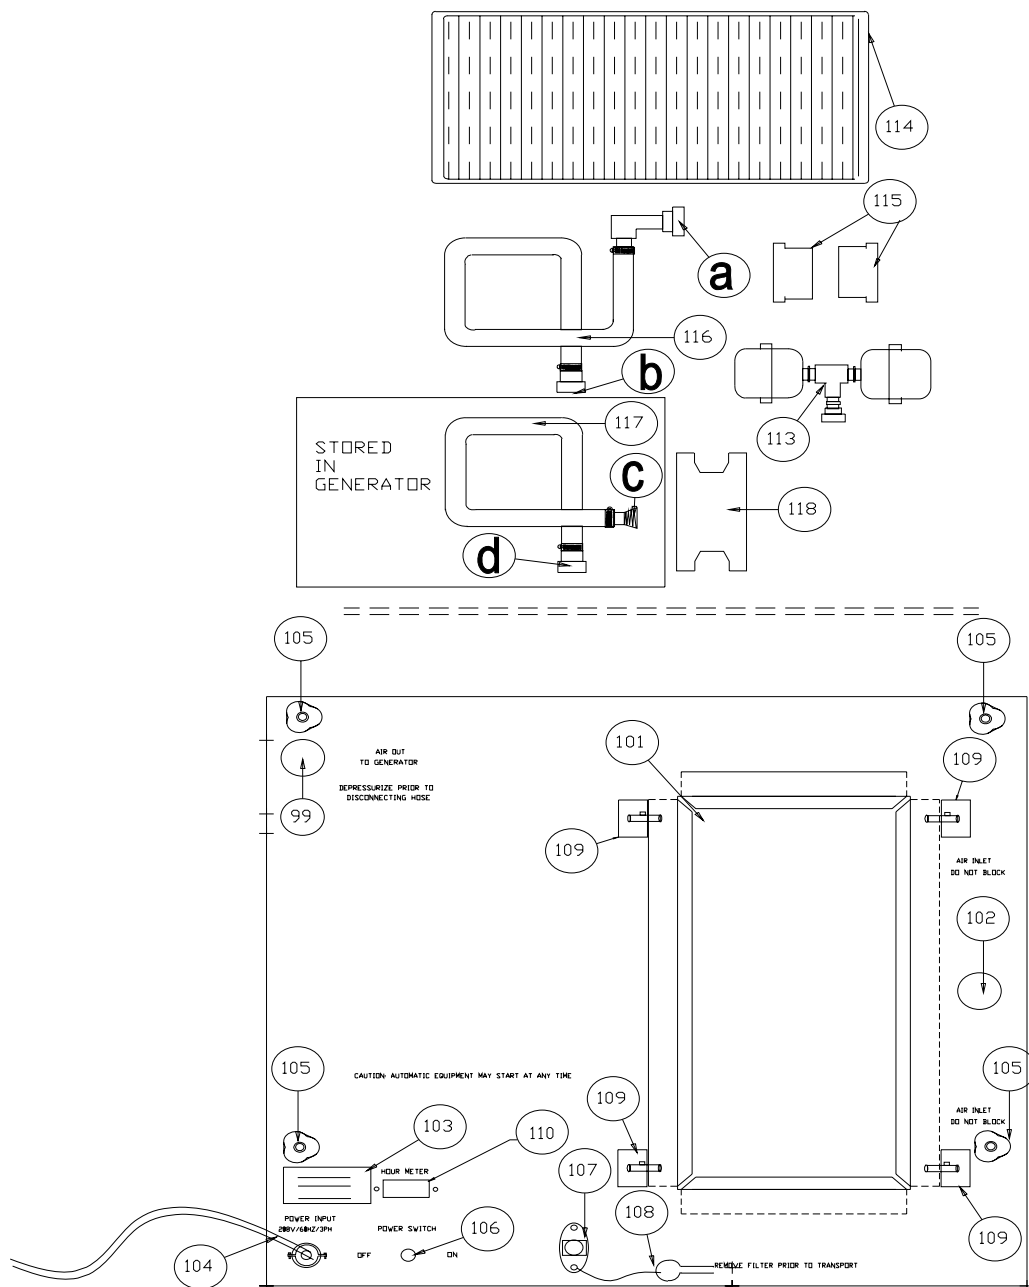

Figure 5
7.2.12 Compressor Interior Cover (Fig. 5)
7.2.13 Compressor Accessories (Fig. 5)
(Fig. 5)